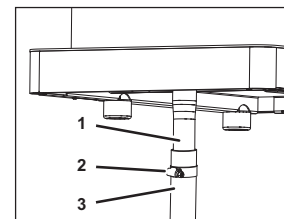

Fig. 11
3. Attach the tube (Fig. 11/3) to the drain fitting (Fig. 11/1) with a tubing clamp (Fig. 11/2).